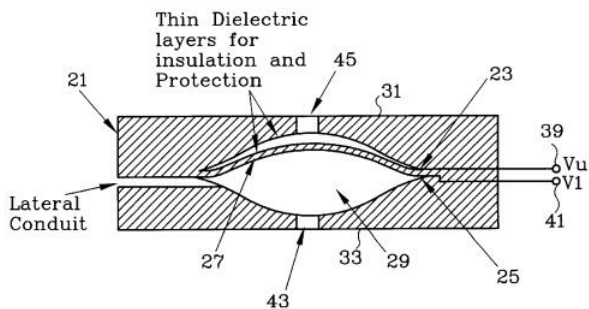

Fig. 2
As seen in Figure 2, each channel of the mesopump has a molded body with an upper actuation electrode (23) and a lower actuation electrode (25). An electrically grounded diaphragm (27) moves inside the chamber (29) between the upper electrode (31) and the lower electrode (25). The electrodes may be formed by metal plating, printing, or electron beam deposition. The diaphragm may be constructed from metal-coated polymers or a conductive elastomer; however, the material must conform to the curved surfaces of the chamber. This tech-